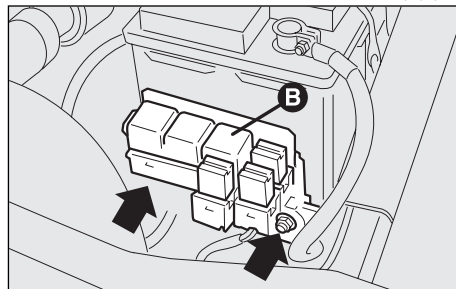

fig. 9
- slacken the two screws shown by the arrows and move the bracket (**B-fig. 9**) to one side complete with relay;